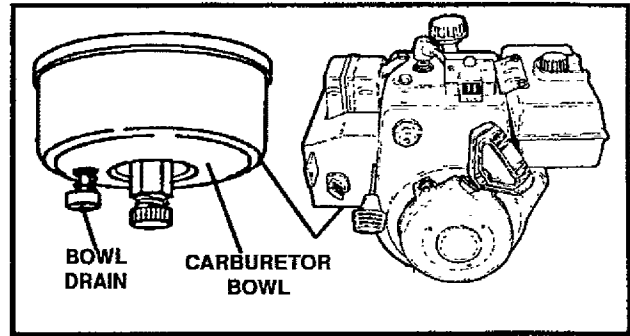

FIG. 1
- To remove gasoline, run the engine until the tank is empty and the engine stops. Then drain remaining gasoline from carburetor by pressing upward on bowl drain located on the bottom of carburetor (See FIG. 1).